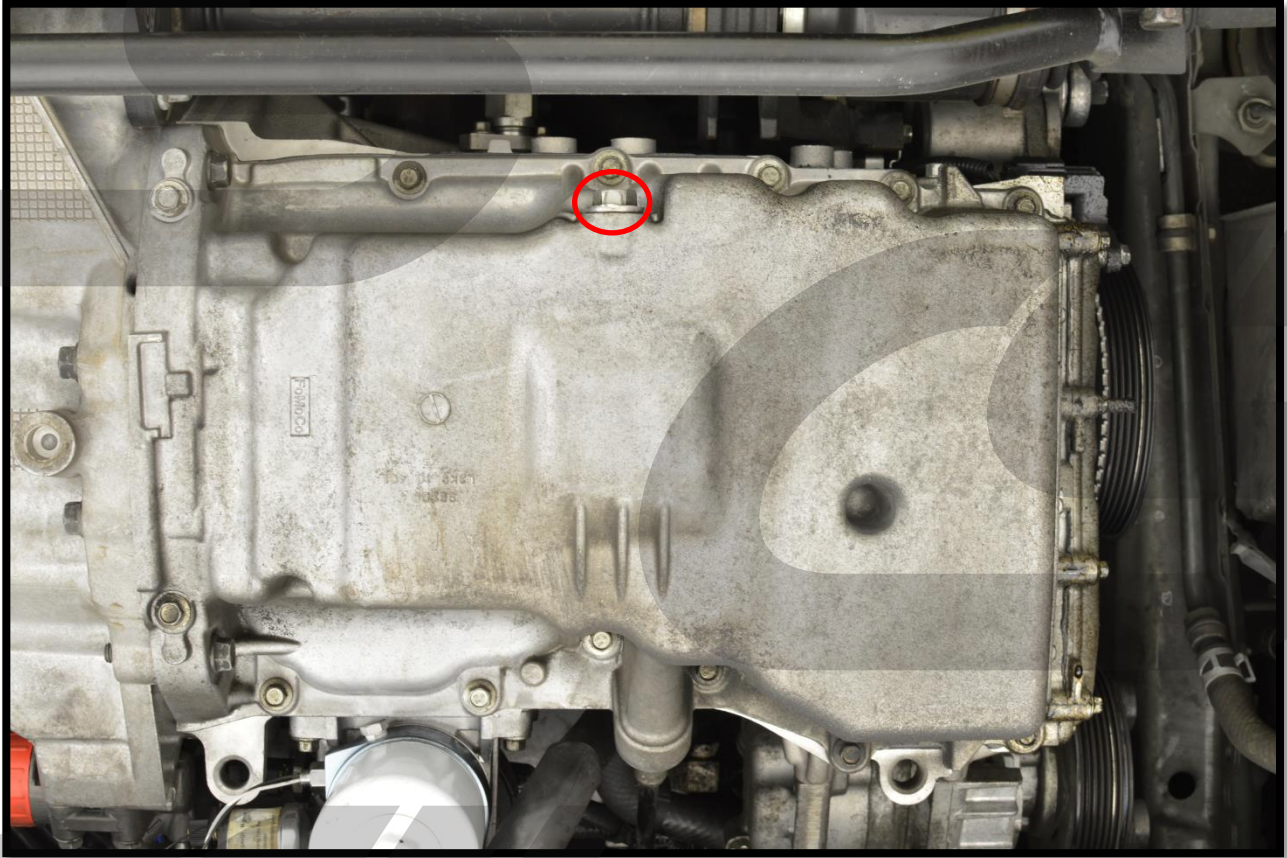

Figure 3a
- a) Drain the oil by removing the one (1) 17mm drain plug. **Circled in Red** in **Figure 3a**.